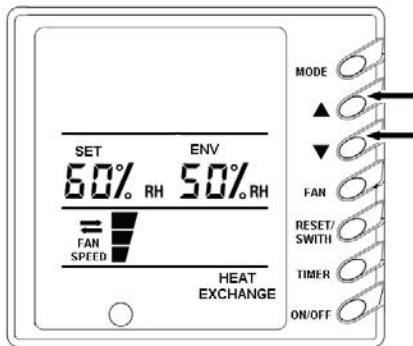

Fig.6
3.1.3 Humidity Adjustment (Fig.6)
Note: Lock function: Pressing ▲ and ▼ simultaneously for 5s, the place of setting humidity will display EE and all response to the buttons Fig.6 will be shielded. And then press ▲ and ▼ simultaneously for 5s to release Lock Function.